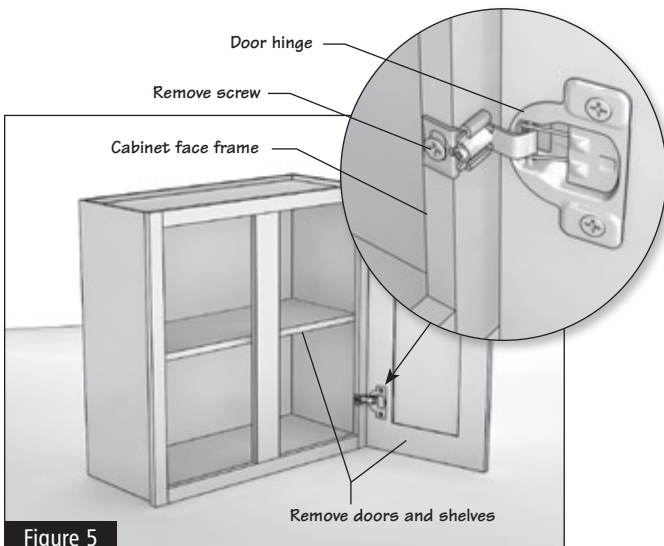

Figure 5
**2.1** Remove all shelves and doors. You might want to mark (or carefully stack them in position) for reinstalling later. This will make the cabinets lighter and easier to handle. (Figure 5)